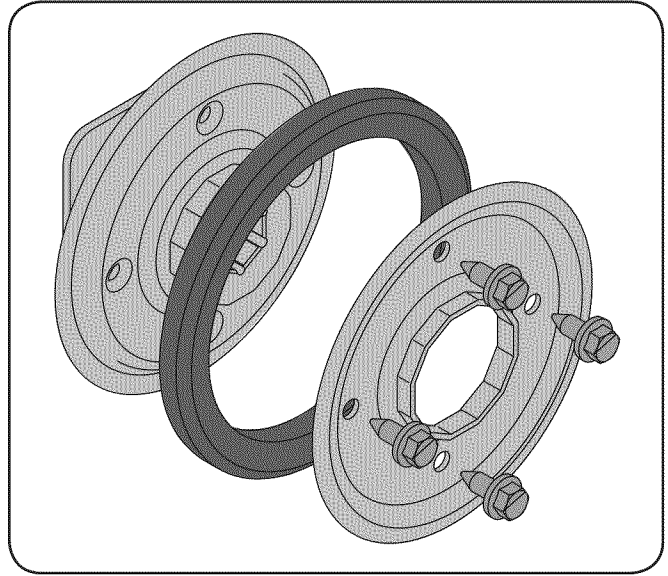

**Figure 8-10**
- Carefully position the hex shaft downward and to the left before carefully sliding the friction wheel assembly off the shaft. See Fig. 8-10.